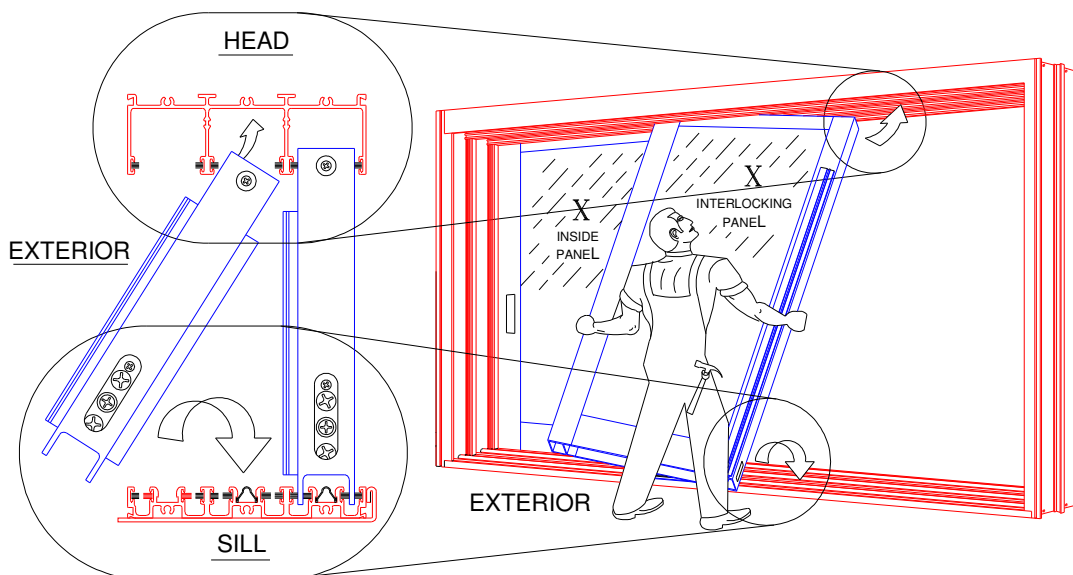

Figure 30:
- Insert panel into the upper head channel (Figure 30). Push up and swing the bottom inward until panel is vertical, then lower panel down onto the track. On PX or XP configurations, if the pocket construction has been completed, it may be necessary to remove the lead stile from the panel before installation into the frame can be accomplished.